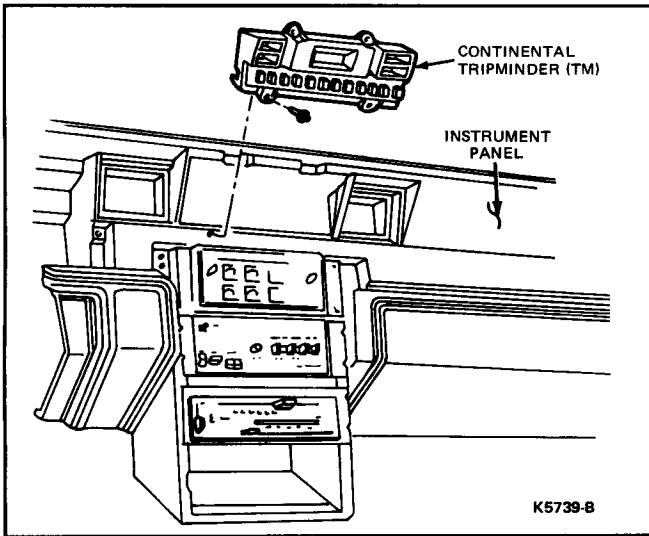

FIG. 7 Message Center
4. Remove the four screws that attach the message center to the instrument panel (Fig. 7).